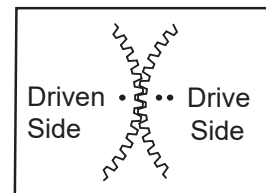

Fig.8-42
- g. Align the punch mark of the drive gear and driven one.(Fig.8-42)